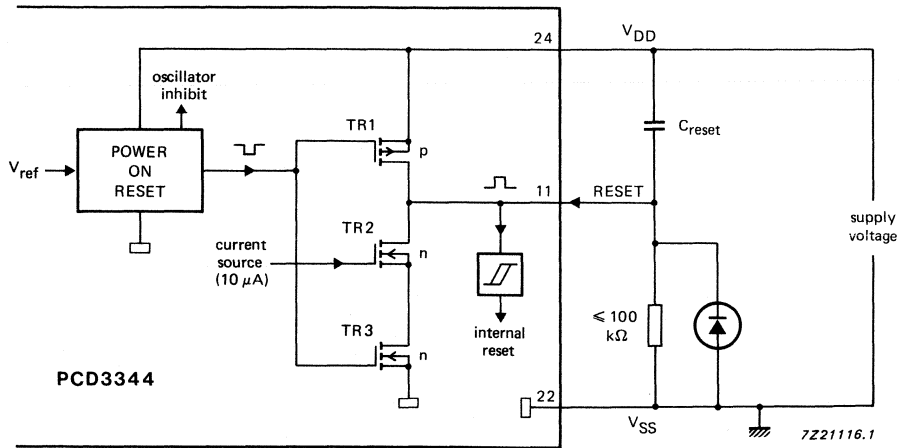

Fig. 20 Stretched power-on reset with external CR circuit.
2. If V_{DD} has a slow rise time then the RESET signal should be stretched by an external CR circuit (see Figs 20 and 21). In the event of a short drop in V_{DD} , the diode path discharges the capacitor rapidly to ensure a reliable power-on reset. The RESET signal should reach at least 70% of the final value of V_{DD} to ensure a correct reset. Given that the RESET voltage and V_{DD} rise exponentially, the above requirement is satisfied when the time constant of the RESET pulse is > 8 times the time constant of V_{DD} . If V_{DD} rises linearly then a RESET time constant > 2 times the rise time of V_{DD} is required.